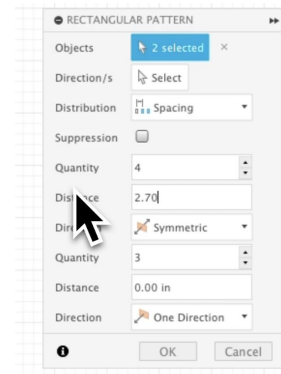

Figure 1.7
4. To add additional dimples, go to **Create** → **Rectangular Pattern**. Make sure both circles are selected. In the Pattern dialog box, set the Direction to **Symmetric** and adjust the **Quantity** as needed (see Figure 1.7).